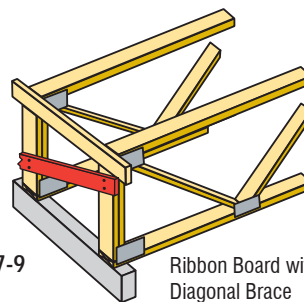

FIGURE B7-9
- ✓ For bottom chord bearing trusses, TCTLR at truss ends are not required if Blocking panels, Ribbon board or Rim board are used. See details in Figures B7-9, 10 and 11.